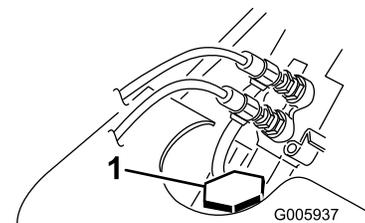

Figure 15
3. Remove the radiator filler cap and check the coolant level (Figure 15).